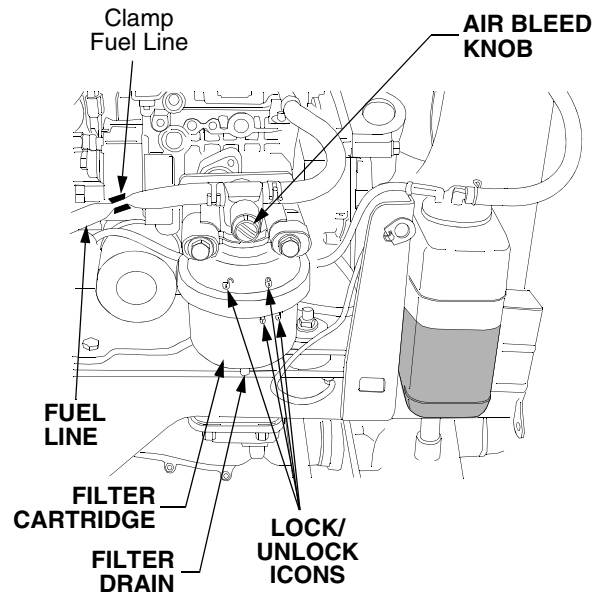

Figure 59
- Slowly turn the air bleed knob counterclockwise until fuel begins to seep out around the bleed knob. Turn the air bleed knob clockwise to close. Refer to Figure 59.
- Clamp the fuel line just to the rear of the fuel filter. See Figure 59.
- Turn the filter approximately 1/4 turn counterclockwise (as viewed from bottom) to align the unlock icons. Refer to Figure 59.